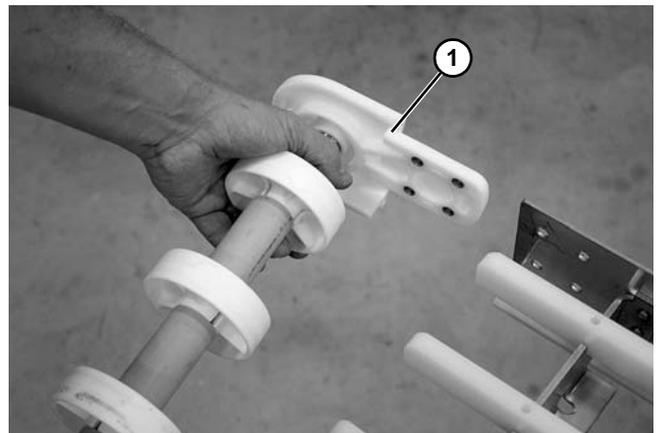

Figure 51
- Remove idler tail assembly (**Figure 51, item 1**).